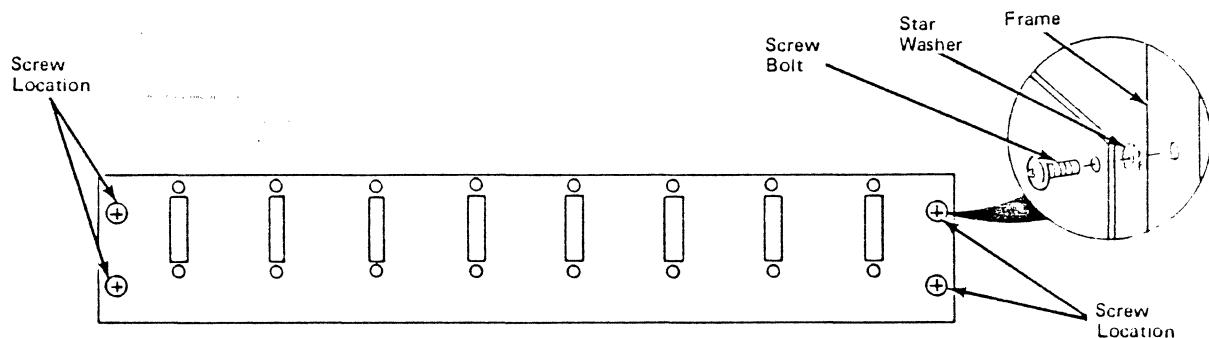

Figure 9-11. Screw Locations for I/O Panels
- c. Remove the four screws that secure the I/O panel to the I/O panel frame (Figure 9-11).